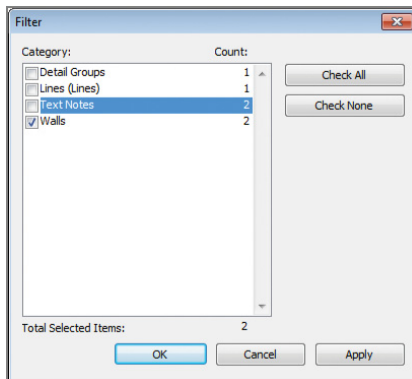

FIGURE 1.12 Filter your selection to include only walls.
2. You'll probably have selected more than just walls when you use this method. To reduce the selection to only walls, click the Filter button in the ribbon, and clear all the check boxes except Walls, as shown in Figure 1.12.